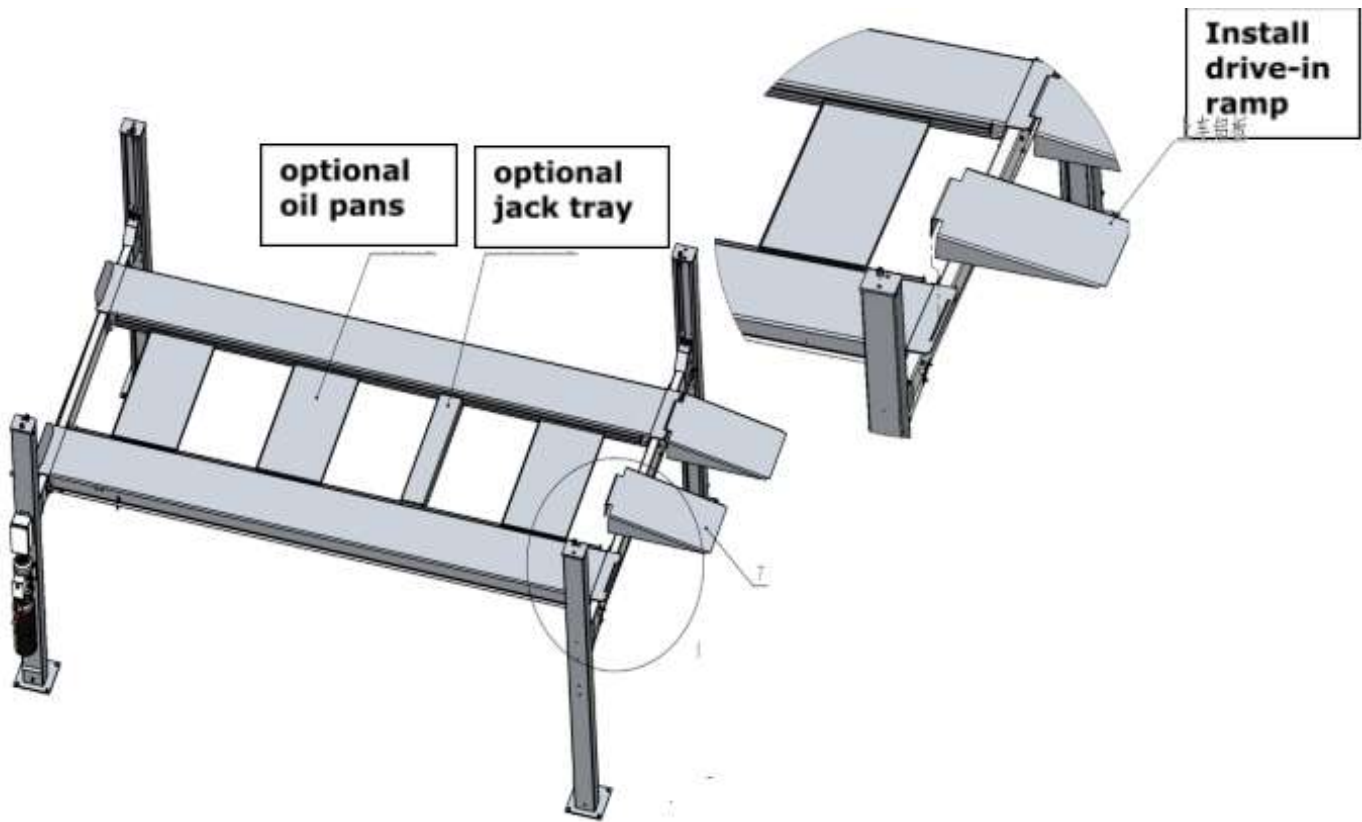

Figure 25
Step 10 - Install drive-in ramp, optional jack tray and optional oil pans (See Fig.25). then attach the drive-in ramp: